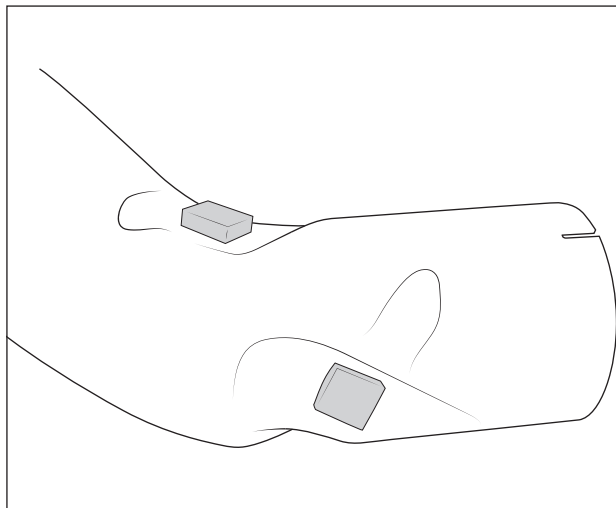

Figure 18
10. Install the adhesive foam pads to the extension tube as shown (Fig. 18).